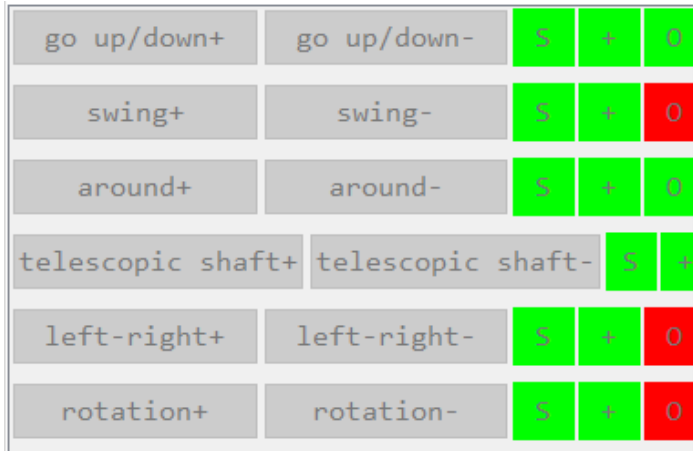

Fig. V-65 Testing Axis Control
- 4) Set the axis in the "Testing Axis Control" area (Fig. V-65), "lift + control axis": rise; "lift - control axis": fall; "swing + control tray": tilt towards direction of ray tube; "swing - control tray": tilt towards detector; "front/rear + control axis": move inside cabin; "front/rear - control axis": move outside cabin; "left/right + control tray": move towards light source; "left/right - control tray": move towards detector; "rotate + control tray": rotate clockwise; "rotate - control tray": rotate counterclockwise.